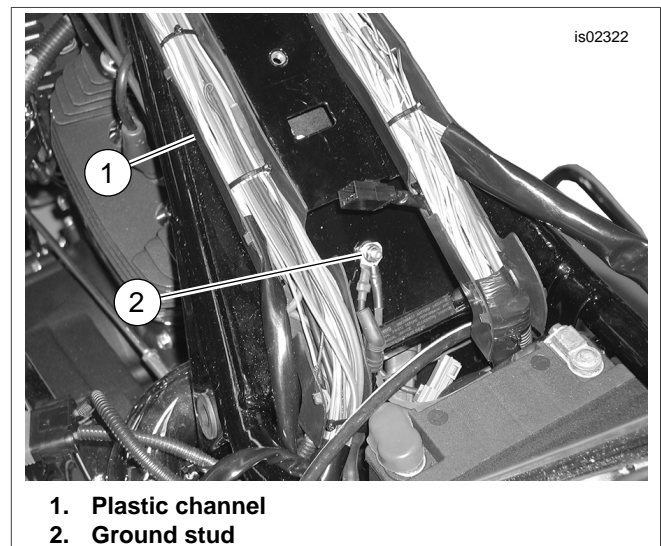

Figure 5. Ground Stud Location (2006 and Later Models)
16. **For ALL models:** See Figure 5. Route the headlamp system ground wire and Red/ Black power wire through the plastic channel (1, for 2006 and later models) or alongside existing harnesses (for 2005 or earlier models). Connect the Black wire to the ground stud (2).